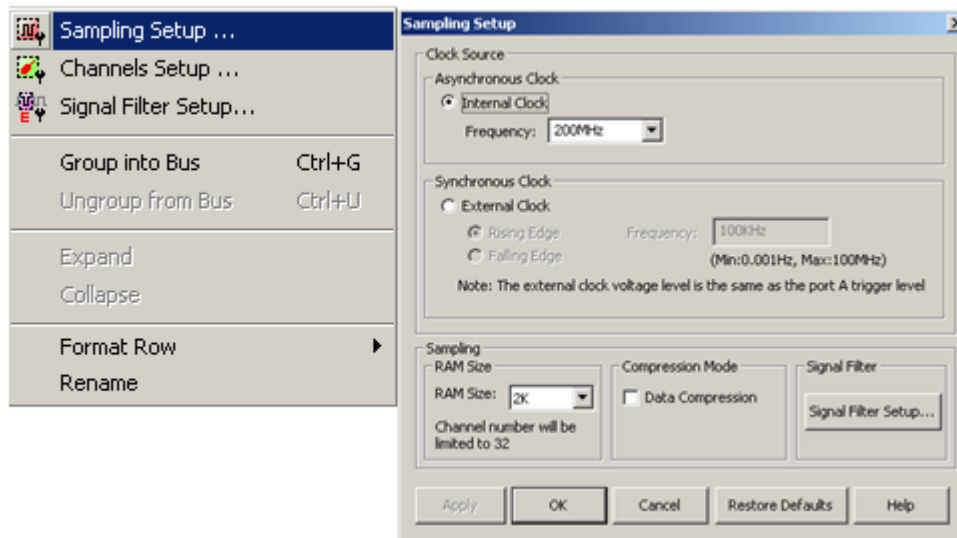

Fig 4-1 - Clock Source
**Step1.** Click  icon or click Sampling Setup from Bus/Signal on the menu bar, the dialog box as shown in Fig 4-1 will appear.